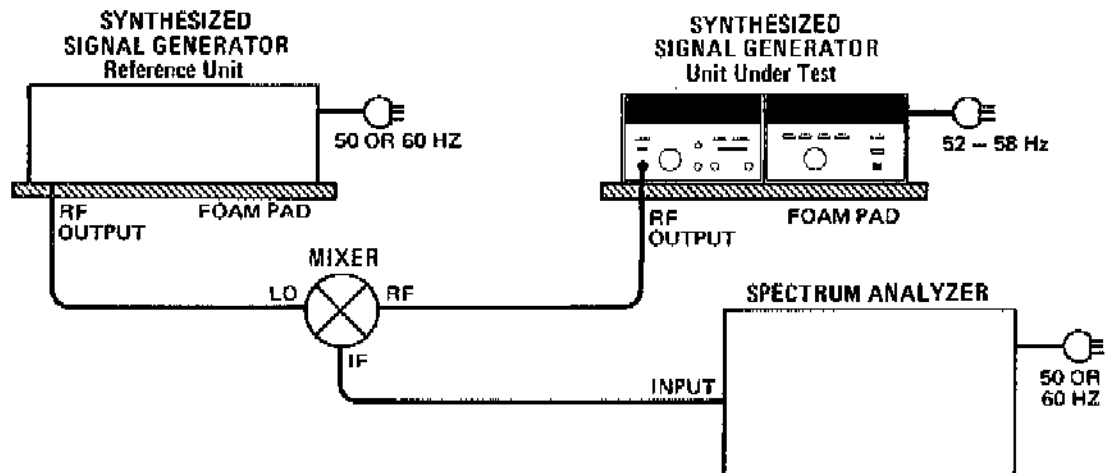

Figure 4-6. Power Line Related Spurious Test Setup
4. Connect the equipment as shown in Figure 4-6.